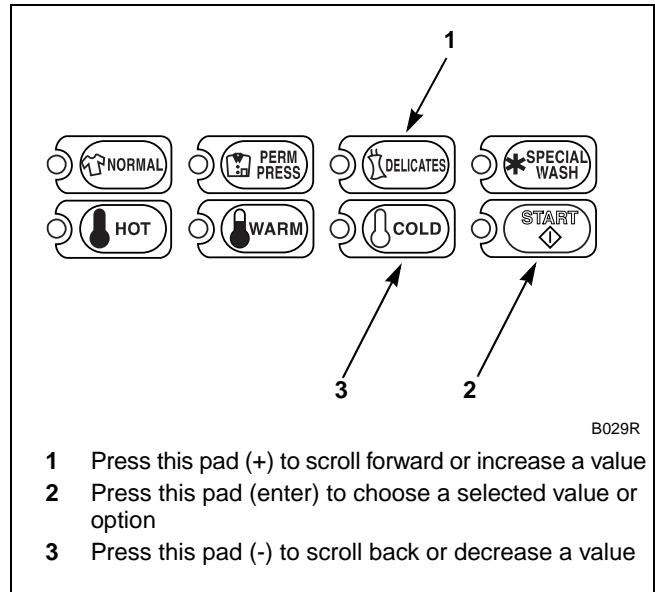

Figure 223
6. Press the DELICATES (+) or the COLD (-) keypad to increase or decrease the current number until correct. Refer to *Figure 223*.